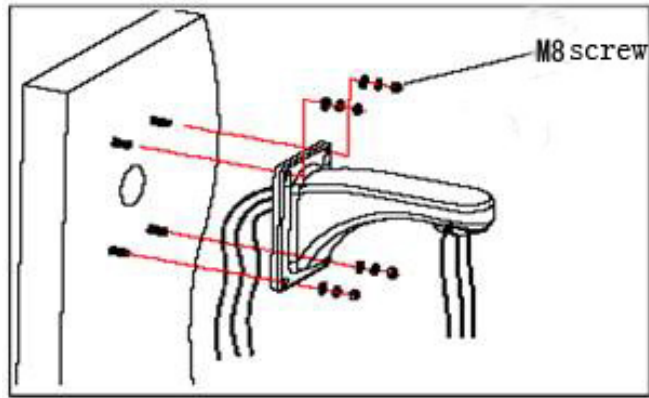

Fig 3
b. As shown in Fig 3, fix the wall hanging bracket on the wall with wire and cable through it.